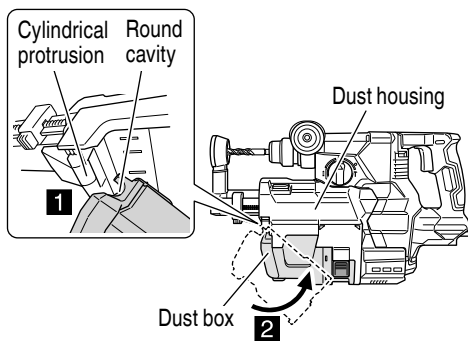

Fig. 17
- (4) Make sure the filter is positioned correctly.
- (5) Attach the dust box to the dust housing. (Fig. 17)